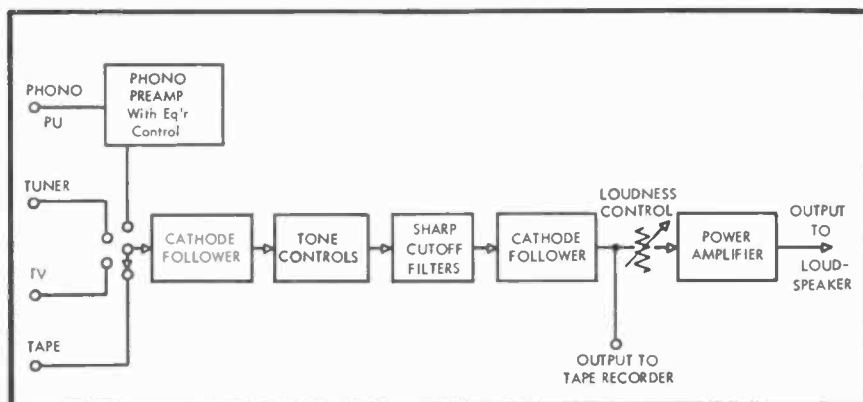

Fig. 4. Block diagram of deluxe one-piece power amplifier and audio control unit.
Figure 4 outlines the configuration of a popular deluxe one-piece power amplifier and audio control box. In this case, the output to the tape recorder is of adequate level, but has been subjected to "tone control" whose purpose is primarily that of adjusting the sound for most comfortable listening, rather than for flatness. There is good reason for tone controls, of course. But a flat signal should nevertheless be presented to the tape recorder. Tone controls are for playback, and not for recording. It should be assumed that the listener will wish to adjust his tone controls, every time he listens, for conditions which exist at the moment, and which may not always be the same. To feed a signal through the same set of tone controls twice is to "double" the effect of the tone controls
Even if the "tone controls" are set at the "flat" position, which often is not marked accurately on the control panel, this position usually is a little off true flatness. Typical of the "flat" position on tone control systems is the curve shown at (A) in Fig. 5. This curve, it is true, is ± 2 decibels from 50 cycles to 8,000 cycles." But, suppose the tape, which has been recorded to this degree of "flatness," is now played back, through the system shown in Fig. 4. Even though the tone controls be left *unaltered*, the playback curve differs from flatness by twice the amount of Curve A, forming Curve M. This, flat now only by ± 4 decibels from 50 to 8,000 cycles, is sharply rolling off at both low and high frequencies, with severe "bumps" in response. Small deviations from flatness in the tone control system, which are entirely negligible so far as the original function of the controls is concerned, now become major sources of unpleasantness, which may be blamed upon the tape recorder, even though, in this example, the tape recorder was assumed to be perfectly flat in frequency response.